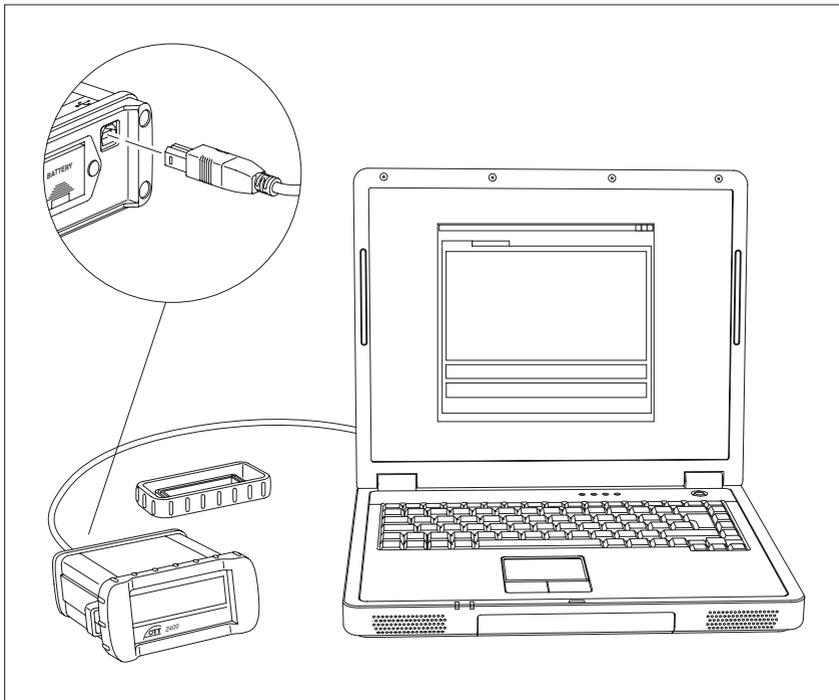

Fig. 5: Connecting the Z400 to the PC with a USB cable.
- Connect the USB cable to the Z400 as shown in Figure 5.